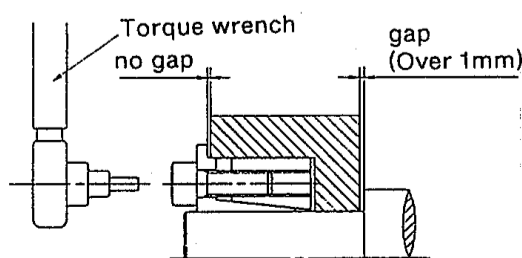

Fig. 2
3. Insert the POWER-LOCK into the hub and shaft and tighten the bolts by hand until a slight positive contact is obtained and bring them to desired position. (Never strike the POWER-LOCK with a hammer or other such tool during the mounting.) (See Fig.2)